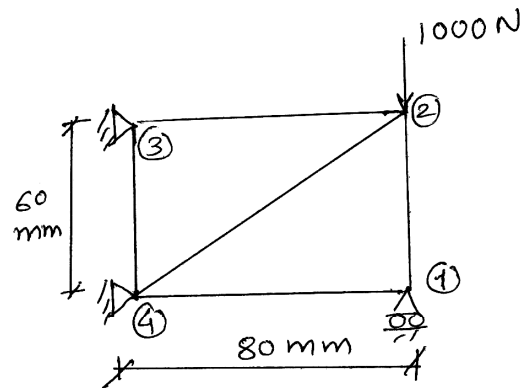

Fig. 6
- Q.4** For a thin plate shown in fig. 6, determine the deflections at node 1 and 2. **14**